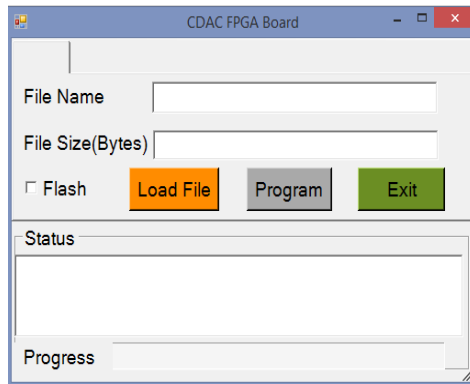

Fig 2.30: FPGA programmer interface
29. Start CDAC FPGA Board programmer (Fig2.30).